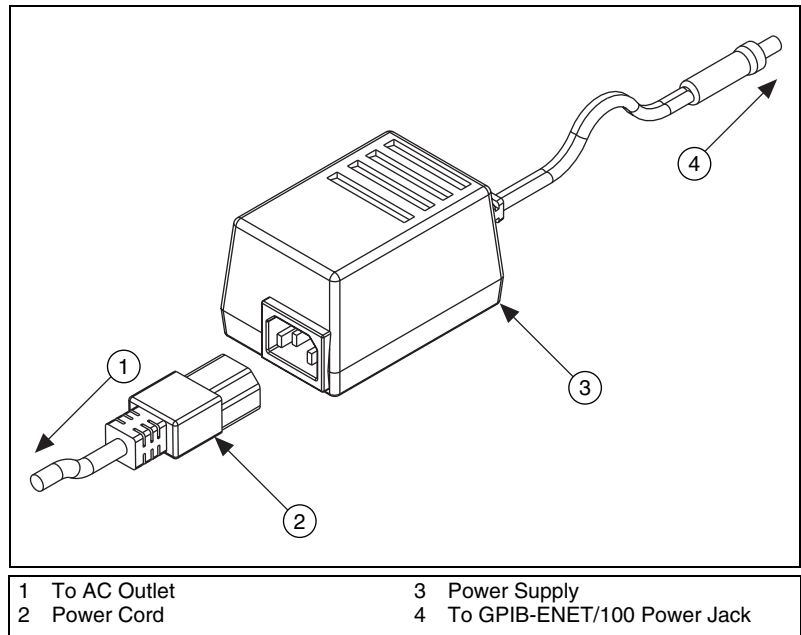

Figure 2-5. Connecting Power to the GPIB-ENET/100
2. Because AC outlets vary throughout the world, your kit includes a power cord that meets your local requirements in addition to a power supply. Figure 2-5 shows how to hook up your power cord and power supply.